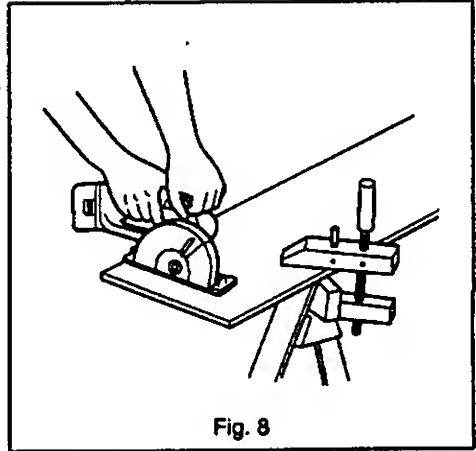

Fig. 8
- Figure 8 shows proper cutting position.